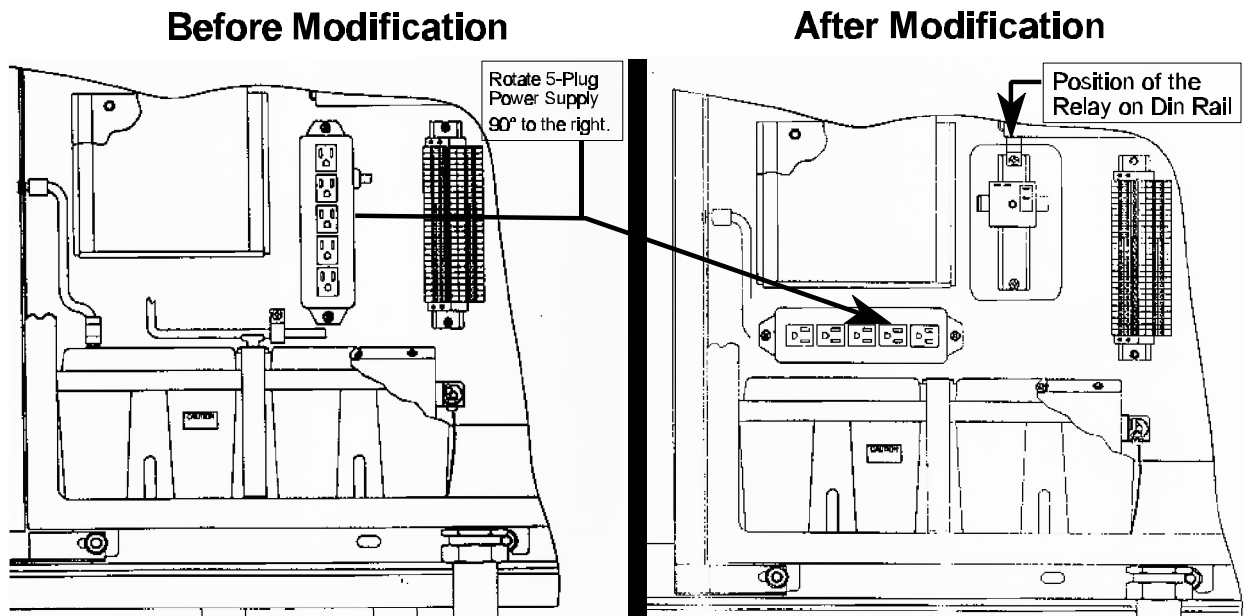

Figure 1 SCA Modification Diagrams for SCA SSTDR Installation
To accommodate the 7A1A1A13-K1 assembly, the 5-plug power outlet strip must be removed, rotated 90° to a horizontal position, and reinstalled just as if this were a Class II SCA with an UPS installed above the battery compartment and below the UPS support tray. (Refer to figure 1 below).
5. Using the power outlet strip as a template, place the power outlet strip above the battery compartment (as in **Figure 1, Before Modification**) and mark where the two holes will need to be drilled for remounting.
10. Install the SCA SSTDR assembly, 7A1A1A13-K1, and the 5-Plug power outlet strip, as shown in figure 1, using the machine screws, flat washers, and lock washers, *hardware saved from the removal of the power outlet strip*, **and** self-tapping screws, flat washers, and lock washers, *where holes were drilled*.